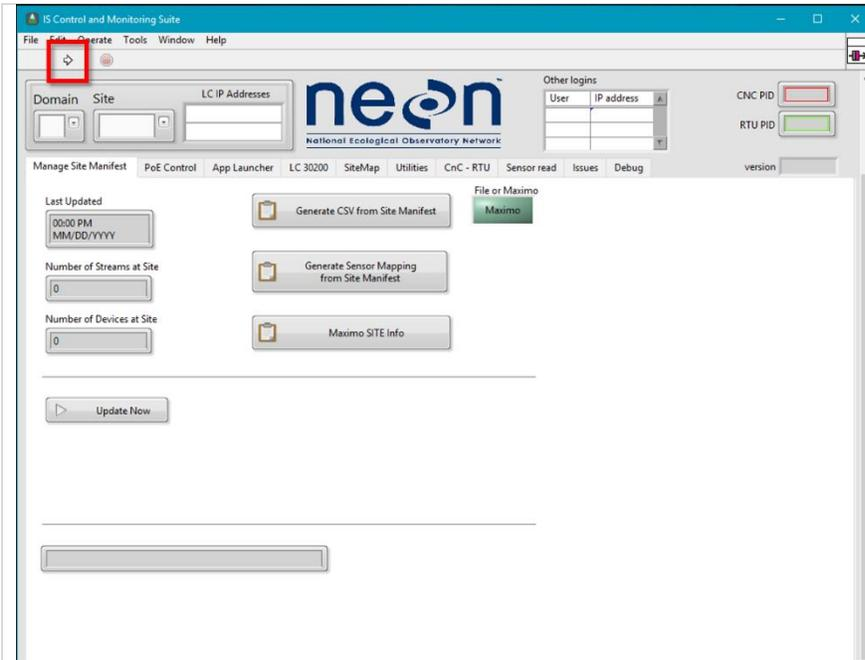
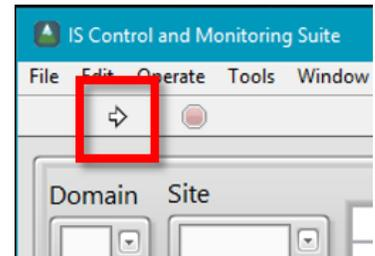

Figure 161. Select the Run Icon in the Upper Left Hand Corner
Figure 162. Close-up of Run Icon
**STEP 1** | Launch the IS Control and Monitoring Suite and select the Run icon in the upper left hand corner of the window (white arrow in Figure 161 and Figure 162).